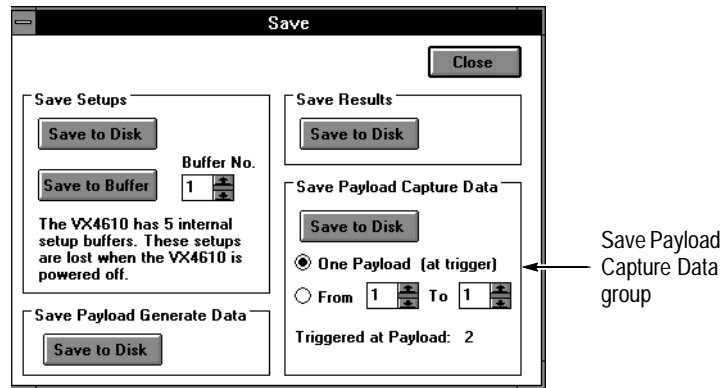

Figure 3–58: The Save dialog box
1. Click on the **SAVE** icon in the control and indicator bar to display the Save dialog box (see Figure 3–58).